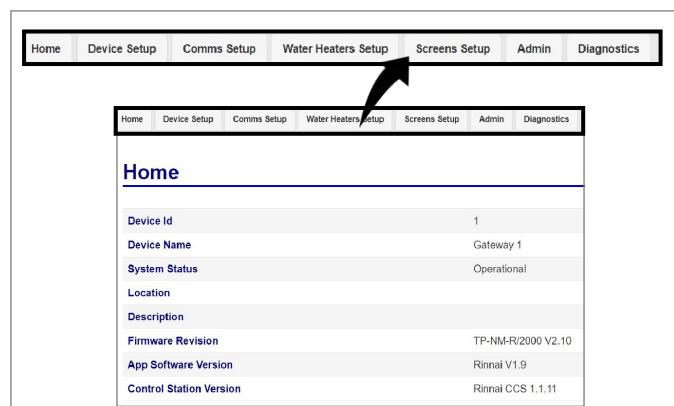

Fig 40. BMS Gateway Software Tabs
4. The following tabs are located across the top of the screen (Fig 40). Each tab is described in the following sections.